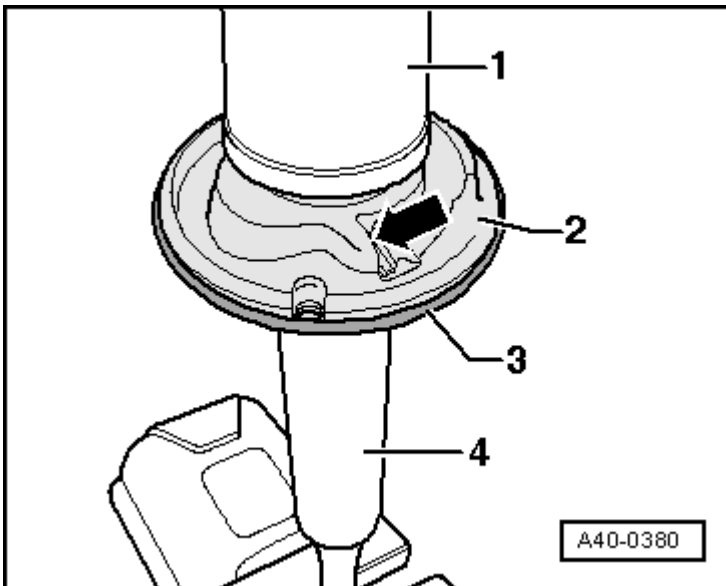

Fig. 123: Identifying Protective Cap, Bottom Spring Washer, And Spring Plate
- Installing, refer to **Fig. 123**